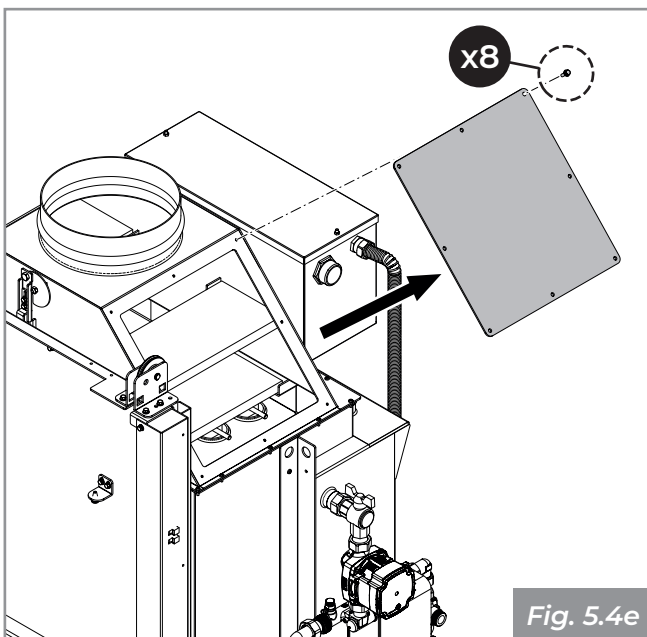

Fig. 5.4e
- Access the fume coil inspection compartment by removing the screws from the fume inspection hood on the side of the hydraulic system (**Fig. 5.4e**);